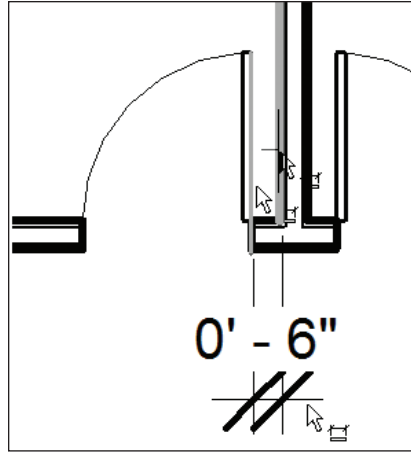

FIGURE 5.38 Placing a dimension
2. Place a dimension between the door and the wall, as shown in Figure 5.38.